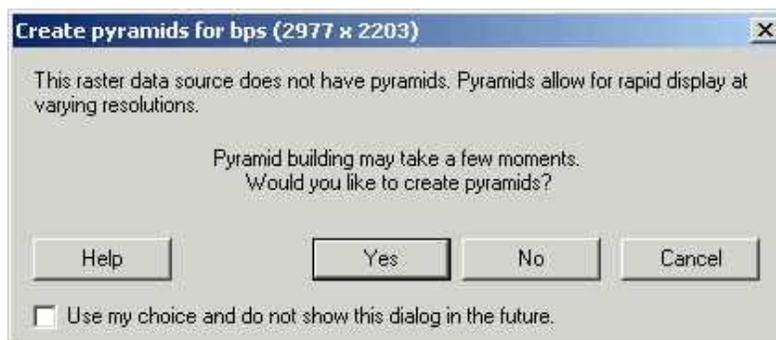

Figure 7-8. Create pyramids dialog box.
**Tip:** You may see the following “**Create pyramids**” dialog box at this point (fig. 7-8). Click **No** to speed up processing. If you do not want to see this box again, put a check in the lower left-hand corner to disable it.